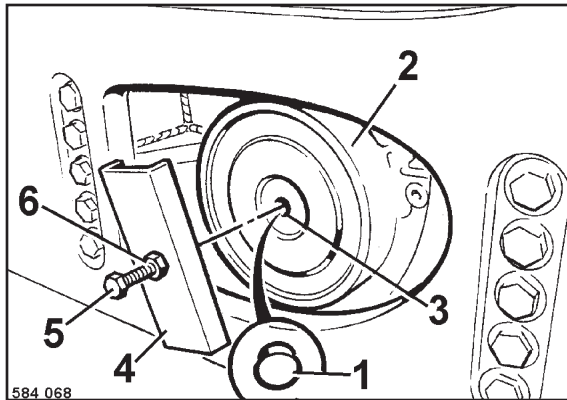

Fig. 66
- To release the brake turn counter nuts 1 (Fig. 66) approx. 8 mm back.
- Turn the brake releasing screws (2) completely in against the stop
- Remove plug 1 (Fig. 66).
- Place an U-section (4) across the brake housing (2) and turn the screw (5) into the tapped bore (3), until it bottoms.
- Turn the nut (6) down and tighten it approx. one revolution. The drum must rotate freely.